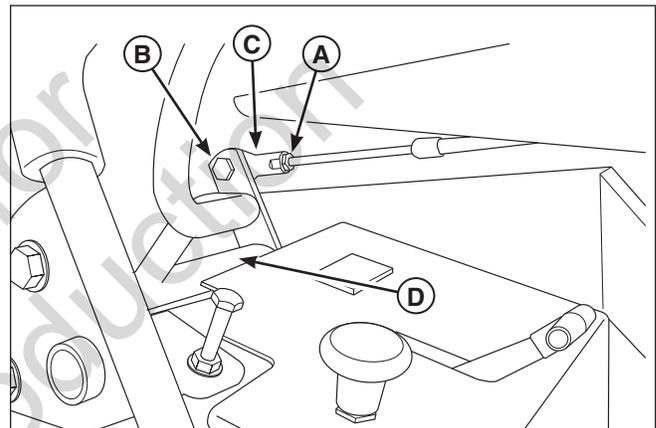

Figure 30. Speed Balancing Fine Adjustment
1. Loosen the jam nut (**A, Figure 30**).